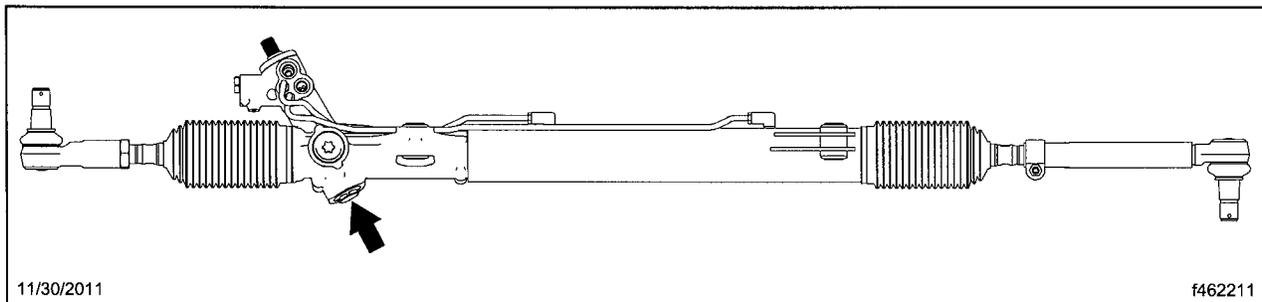

Fig. 1, Ball Bearing Access Cover Location
- Check the ball bearing access cover for indications that the cover has been staked at three equidistant points, See **Fig. 1**. If the ball bearing access cover has been staked, no work is needed.